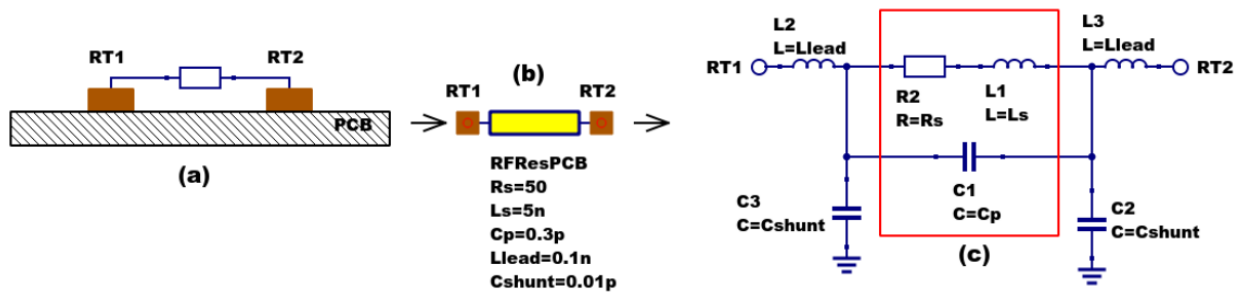

Figure 2 - PCB mounted resistor: (a) axial component mounting, (b) Qucs symbol and (c) equivalent circuit model.
The schematic symbol, I/V equation and parameters of the Qucs linear resistor model are shown in Figure 1. In contrast to this model Figure 2 illustrates the structure of a printed circuit board (PCB) mounted metal film (MF) axial RF resistor (a), its Qucs schematic symbol (b) and its equivalent circuit model (c). A thin film surface mounted (SMD) resistor can also be represented by the model shown in Figure 2 (c).
At signal frequencies where the largest dimension of an axial or SMD resistor is less than approximately 20 times the smallest signal wavelength a resistor can be modelled by a lumped passive circuit consisting of a resistor **Rs** in series with a small inductance **Ls** with the combination shunted by parasitic capacitor **Cp**. In Figure 2 **Rs** is the nominal value of resistor at its parameter extraction temperature **Tnom**, **Ls** represents the inductance associated with **Rs** where the value of **Ls** is largely determined by the trimming method employed during component manufacture to set the value of **Rs** to a specified tolerance. Similarly, capacitor **Cp** models a parasitic capacitance associated with **Rs** where the value of **Cp** is a function of the physical size of **Rs**. At RF frequencies it is important, for accurate operation, to add lead parasitic elements to the intrinsic equivalent circuit model shown within the red box draw in Figure 2. In Figure 2 **Llead** and **Cshunt** represent resistor series lead inductance and shunt capacitance to ground respectively.
A typical set of model parameters for a 51Ω 5 % MF axial resistor are (1) **Ls = 8nH**, **Cp = 1pF**, **Llead = 1nH** and **Cshunt = 0.1pF**. Illustrated in Figure 3 is a basic S parameter test bench circuit for measuring the S parameters of an RF resistor over a frequency range 1 MHz to 1.3 GHz. This example also demonstrates how the real and imaginary parts of a resistor model impedance can be extracted from S parameter simulation data. The graphs in Figure 3 clearly demonstrate that the impedance of the typical MF RF resistor described in previous text and modelled by the equivalent circuit shown in Figure 2 is a strong function of frequency at higher frequencies in the band 1 MHz to 1.3 GHz.
Figure 8 - Qucs device model parameter extraction system applied to a nominal 47 Ω resistor represented by the subcircuit model illustrated in Figure 2 (c). Fixed model parameter values: **Rs = Rm = 47.3 Ω**, **CShunt = 0.08pF**; Optimised values: **Ls = L = 10.43nH**, **Llead = LL = 1.47nH**, **Cp = C = 0.69pF**. To reduce simulation time the ASCO cost variance was set to 1e-3. The ASCO method was set to DE/best/1/exp.
Figure 10 - Qucs simulation of nominal 47 Ω resistor based on theoretical analysis.Figure 11 - Qucs device model parameter extraction system applied to a nominal 1000 Ω resistor represented by the subcircuit model illustrated in Figure 2(c).
Figure 13 - Qucs device model parameter extraction system applied to a nominal 100 Ω SMD resistor represented by the subcircuit model illustrated in Figure 2 (c).
Listed below is an example Verilog-A code model for the RF resistor model introduced in Figure 2 (c). Due to the limitations of the Verilog-A language subset provided by version 2.3.4 of the "Analogue Device Model Synthesizer" (ADMS)⁴ inductors **Ls** and **Llead** are modelled by gyrators and capacitors with values identical to **Ls** or **Llead**.